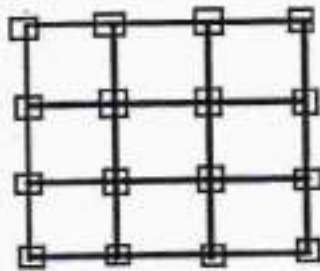

Fig.1 Q3-Plan of Building
- Q3)** A four-story building having area $12 \text{ m} \times 15 \text{ m}$ (as shown in Fig. 1) is constructed [14]